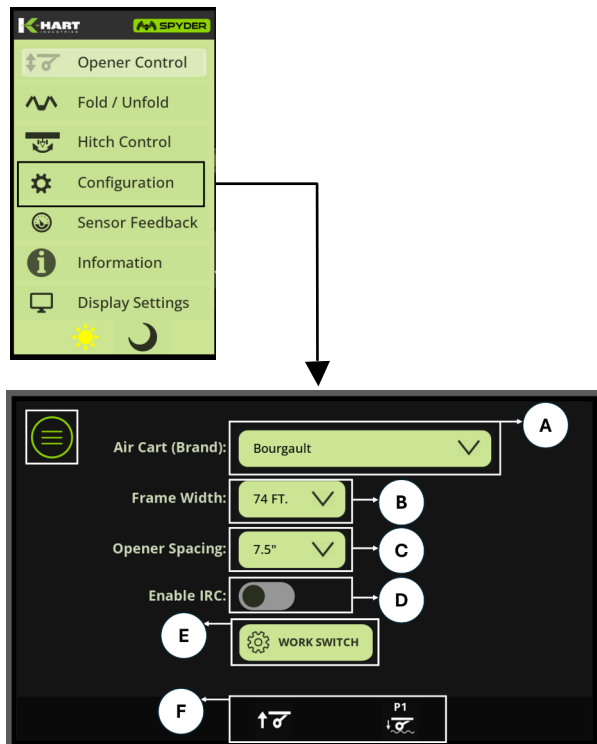

Figure 3.5 Configuration Set-up Page
4. Press Configuration button (Figure 3.5).
5. Select Air Cart (Brand) from the drop-down list (A), if your brand is not on the list choose any.
6. Select Frame Width from drop-down list (B).
7. Select Opener Spacing configuration from the drop-down list (C).
8. If your drill is equipped with IRC, selecting Enable IRC (D) will cause the IRCs to raise and lower along with the openers. Deselecting Enable IRC will keep the IRCs in the air no matter the position of the openers.
1. Navigate to the configuration screen (Figure 3.5).
2. Select IRC Enable (D) and click the toggle to enable it.